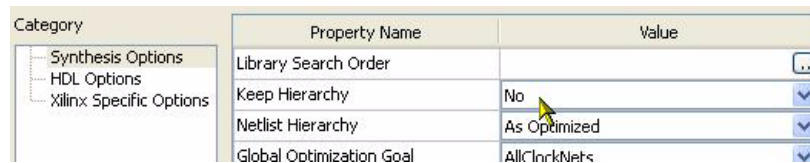

Figure 4-1: Setting Keep Hierarchy Option
2. Set the Keep Hierarchy option to **No** as shown in Figure 4-1.